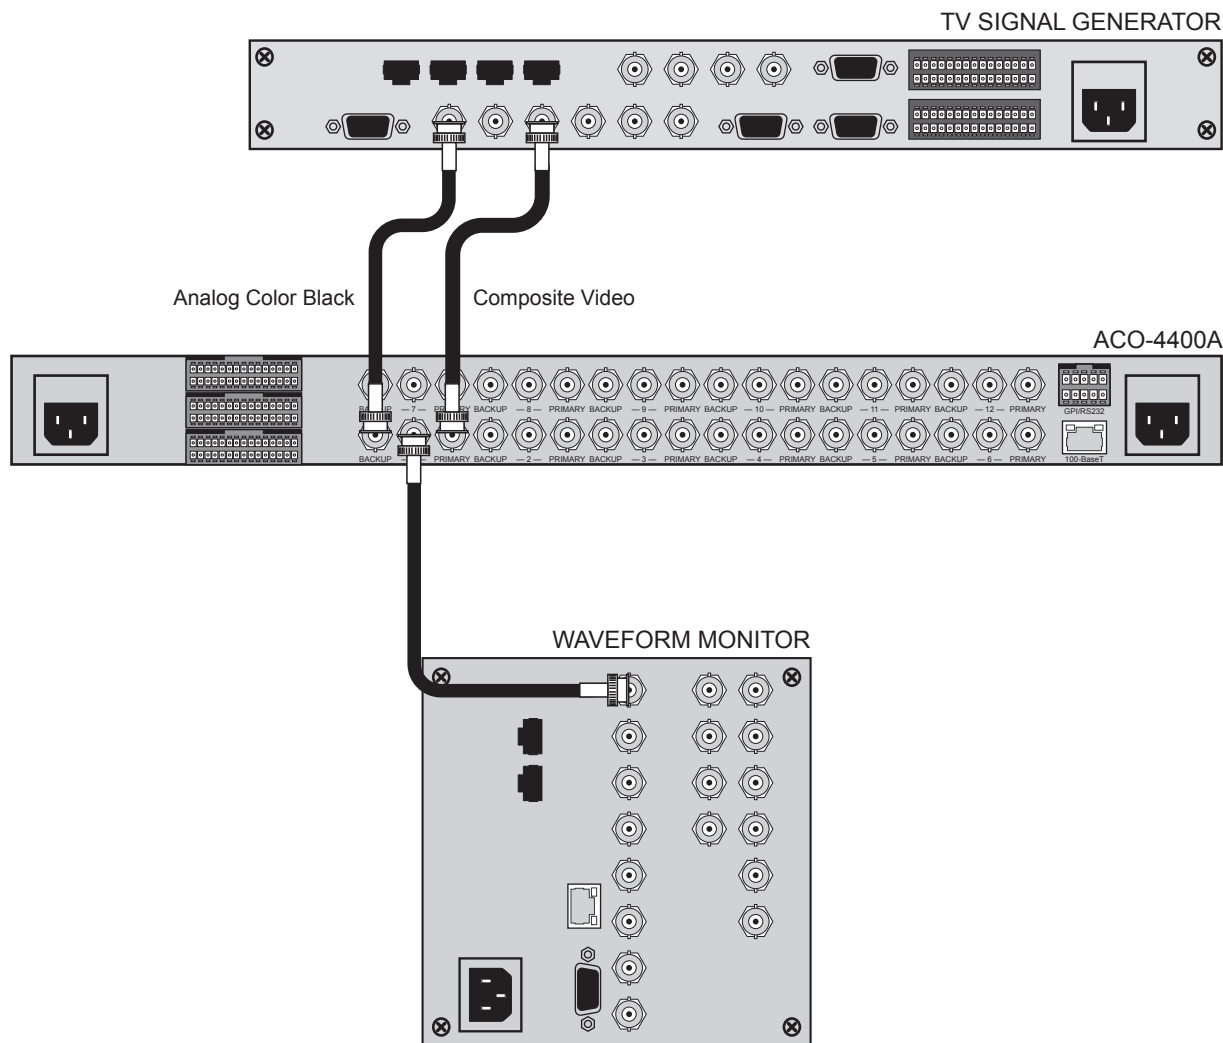

Figure 3.1 Functional Check Connections
2. Connect the ACO-4400A as shown in **Figure 3.1**. Ensure that the ACO-4400A output is properly terminated at the monitoring device.
You can now connect your signals to the ACO-4400A rear panel BNCs (**Figure 3.1** as an example), according to the configuration settings made in the previous paragraph. The example in **Figure 3.1** shows six channels from the list of supported signal types but does not illustrate Molex® channels. Note that the maximum is 12 channels.